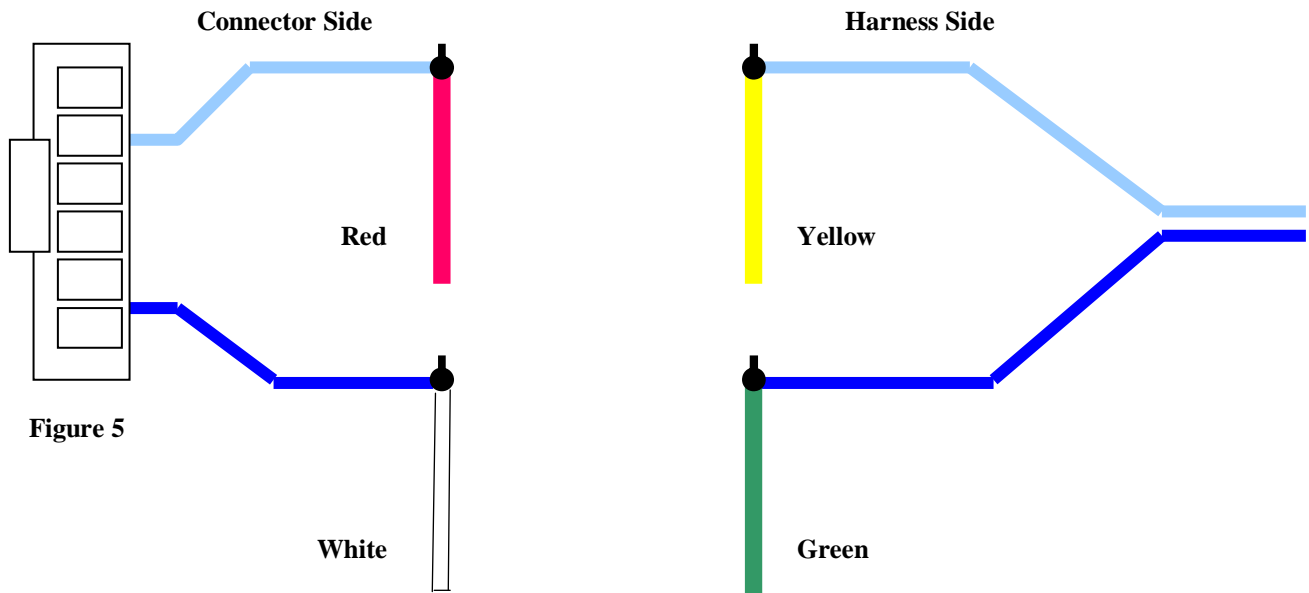

Figure 5
1. Use the diagram and chart below to install the pedal interface harness. Disconnect the Pedal Interface Harness at the 2-pin connectors to ease installation of solder connections. Cut the selected wires at the accelerator harness leaving at least 2 inches of harness from the connector. Solder the wire ends from the pedal interface harness to the accelerator pedal harness according to each wire color listed in chart. **After soldering, wrap the exposed wires with electrical tape. Figure 5**